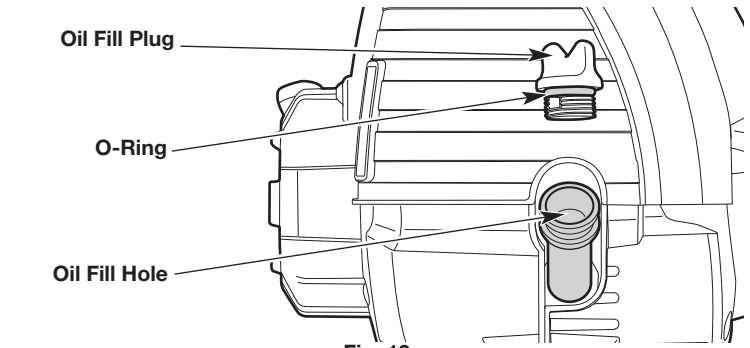

Fig. 13
2. Unscrew the oil fill plug (Fig. 13).
3. Pour 2.37 fluid oz. (70 ml) of oil into the oil fill hole (Fig. 13).
5. Make sure the O-ring is in place on the oil fill plug (Fig. 13).